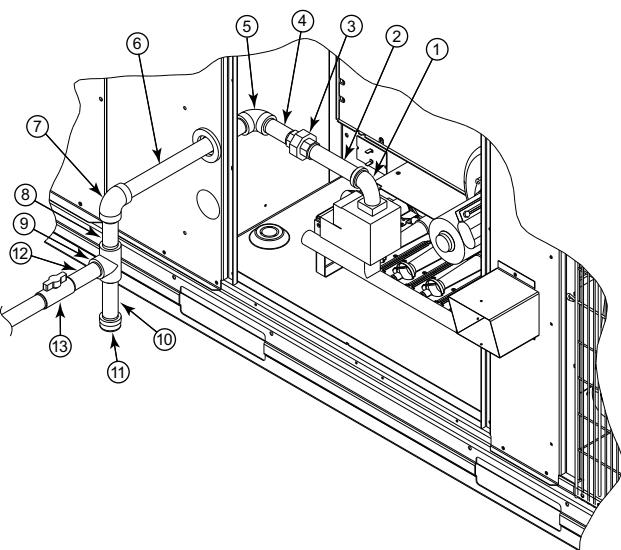

Fig. 35 — Gas Supply Line Piping
For typical 3/4-in. NPT field supplied fittings required for NON Thru-Base gas supply starting from the unit gas valve, omit items 14 and 15 from Table 7 and pipe gas supply into Tee. See Fig. 35.